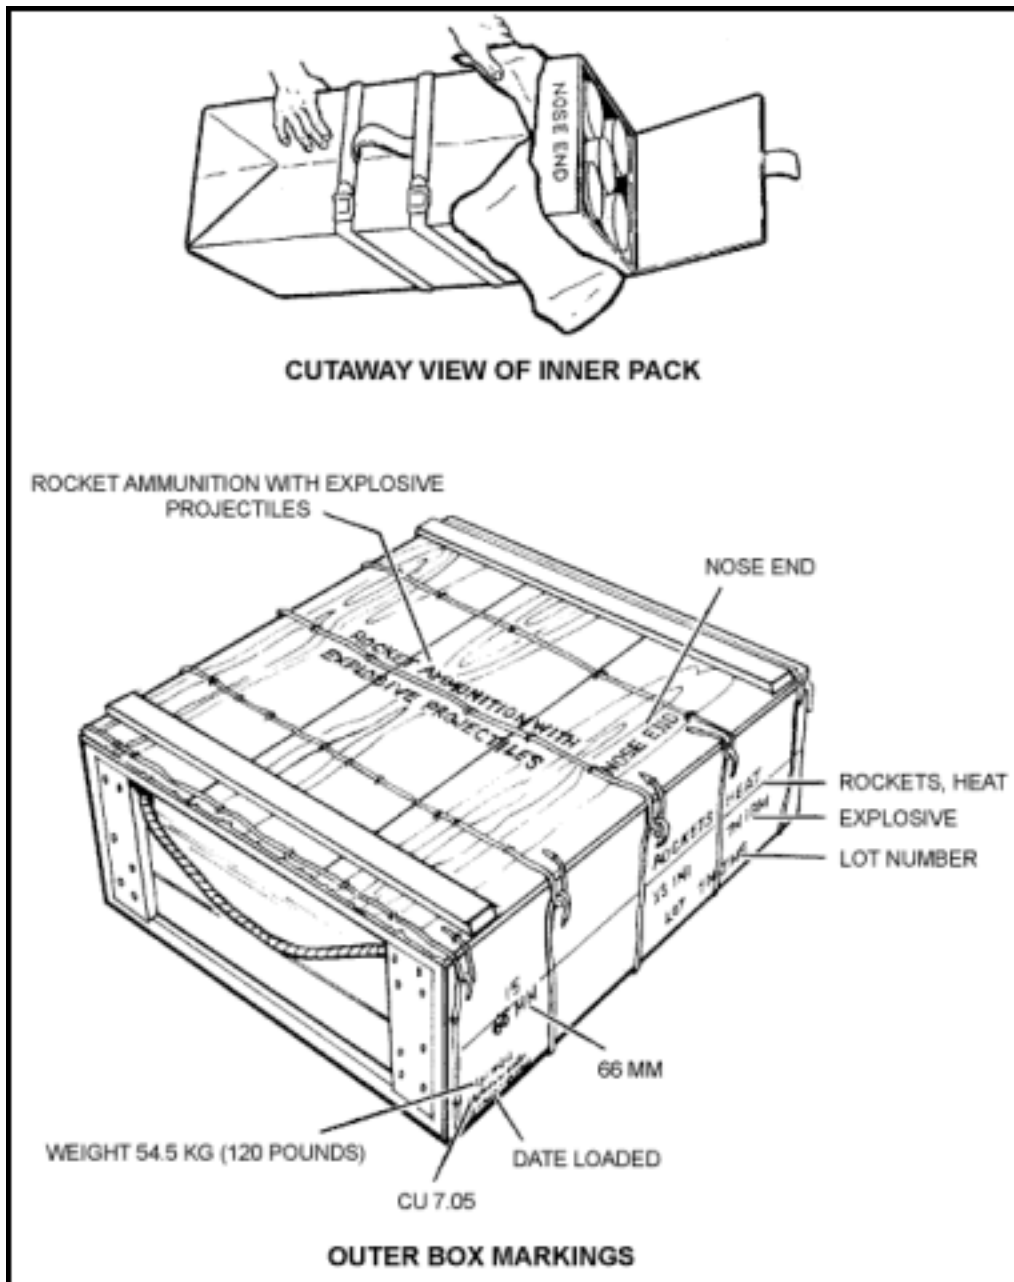

Figure 2-4. Packaging for M72-series LAW.
c. **Packaging.** Five complete M72-series LAWs are packaged within a fiberboard inner pack for a total weight of 12.5 kilograms (27 1/2 pounds). Three inner packs are then placed in a wire-bound wooden box, the gross weight of which is 54.5 kilograms (120 pounds) (Figure 2-4).